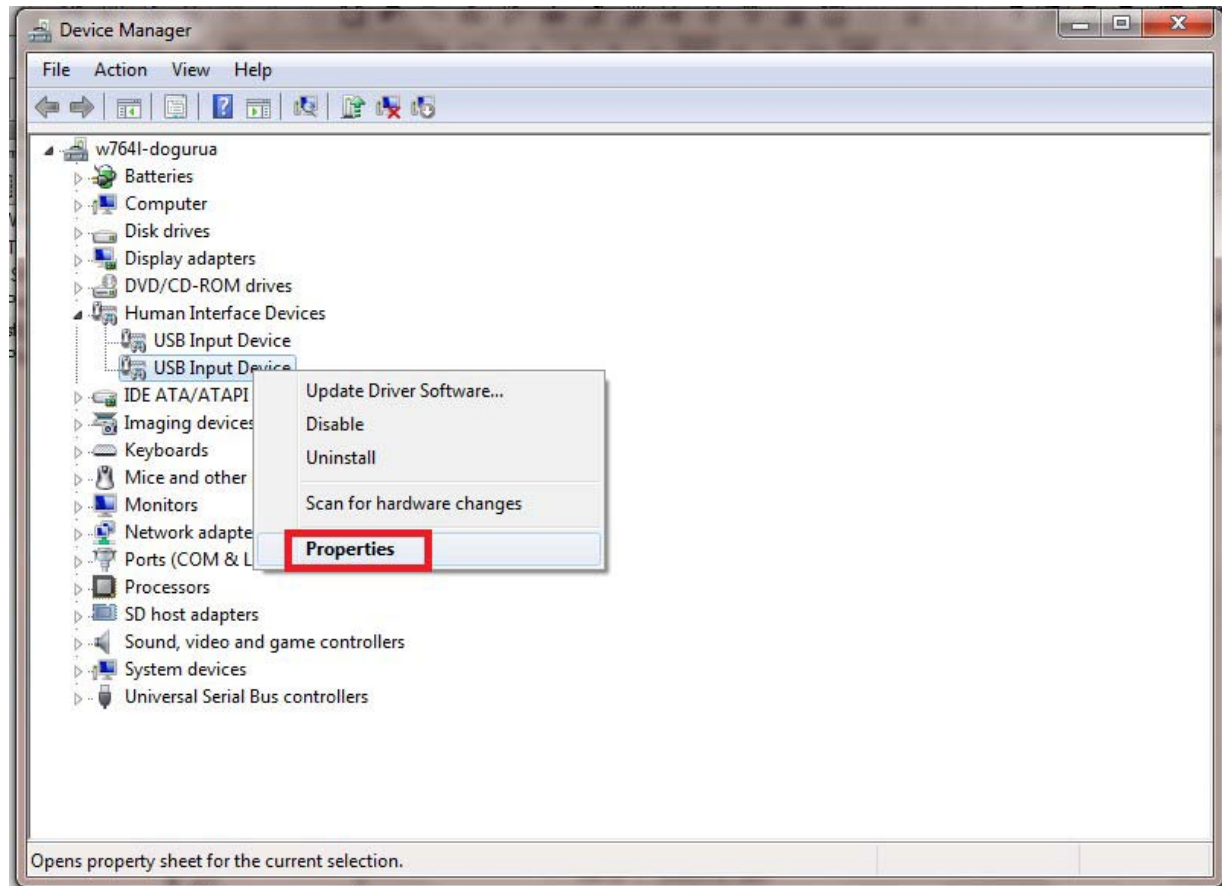

Figure 5 • Installing the USB Driver - Opening the Properties Window
4. Right-click on the **USB Input Device** and select **Properties** as shown in Figure 5.